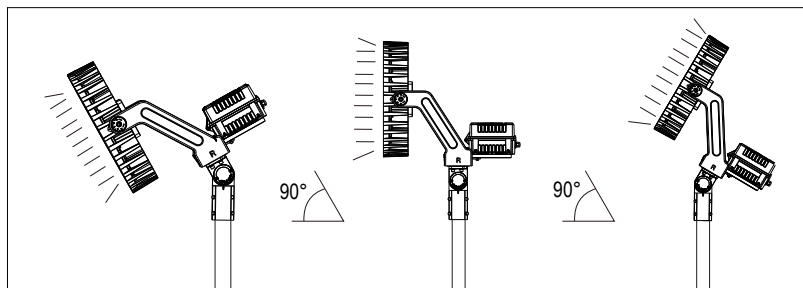

Figure 12
3. Use an open-end wrench and hex wrench to loosen the adjusting screw for adjusting the angle (Figure 12).